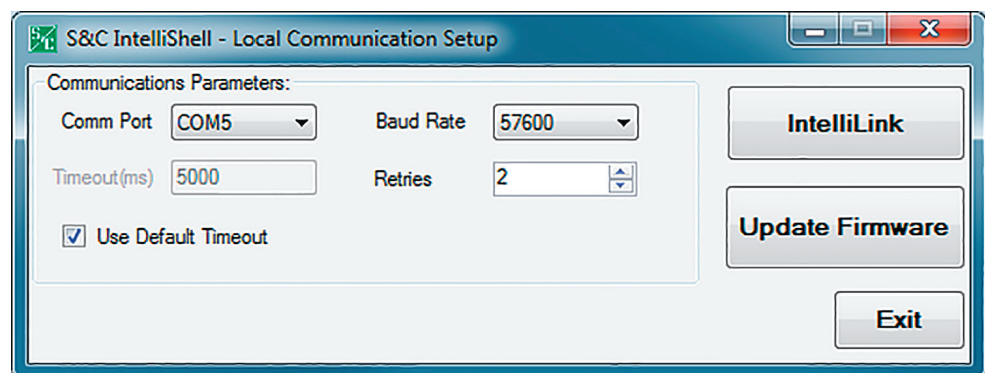

Figure 4. IntelliShell—Local Communication Setup dialog box.
STEP 6. Select the Comm Port used to connect to the control, and click on the **Update Firmware** button. See Figure 4.